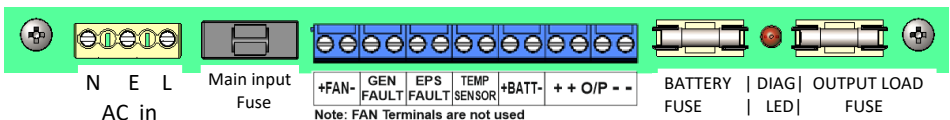

Figure 5 – Terminal labels
- 14) Connect the battery temperature sensor (two white wires) to the PCB terminals TEMP SENSOR. See Figure 5.
- 15) If the batteries are housed remotely, replace the battery lead assembly (including battery temperature sensor) with an extended length assembly, provided with the Battery box (Ensure the temperature sensor and battery connections are made according to figure 5).